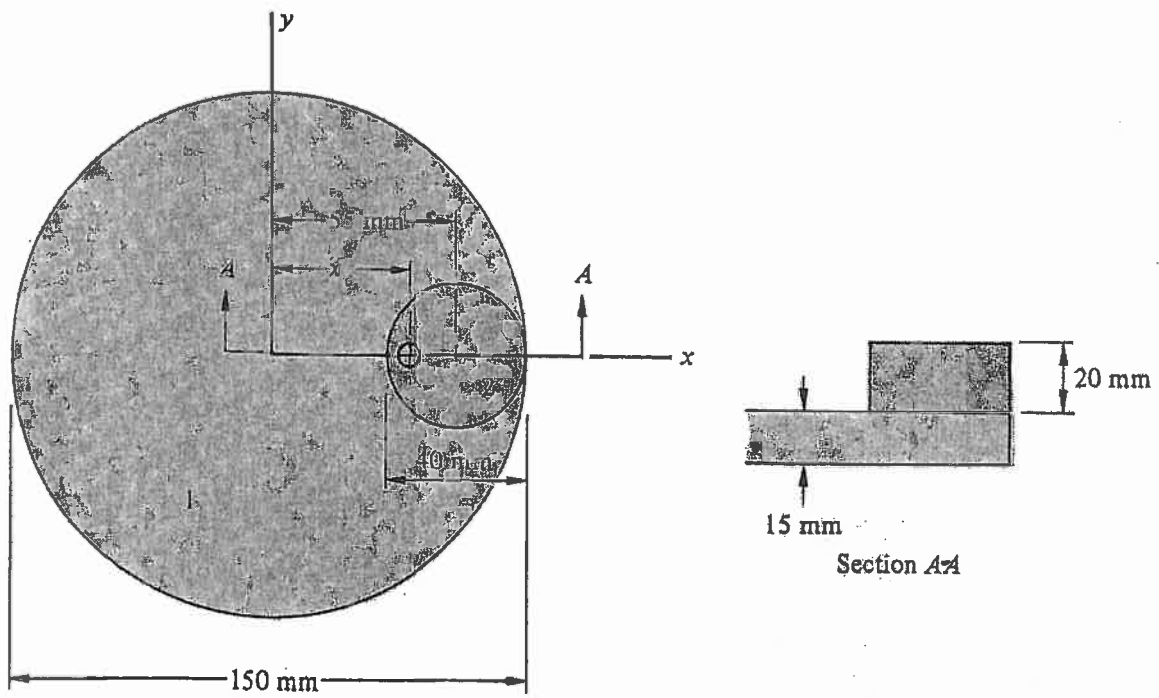

FIGURE 6B.
- c) Find the horizontal components of the force on the rotor assembly hinge pin 2 seconds after the mass is released from rest. Assume that the initial angular position of the rotor assembly was such that, at $t = 2$ seconds, the cable force is parallel to the y -axis and acting in the negative sense of this axis, as shown in figure 6B.
(See next page for Figure 6B)